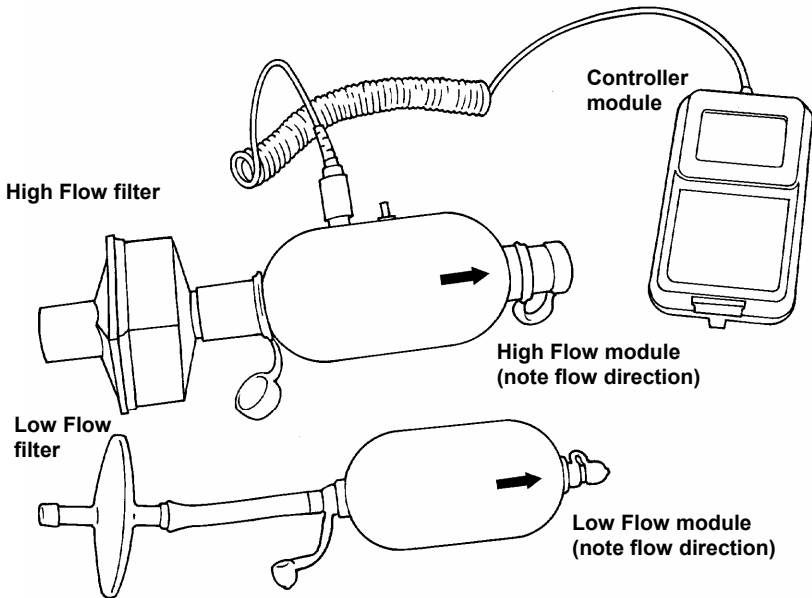

Figure 4. Connecting the Bacteria Filters to the Flow Modules
2. Attach the bacteria filter to the flow module (**Figure 4**).